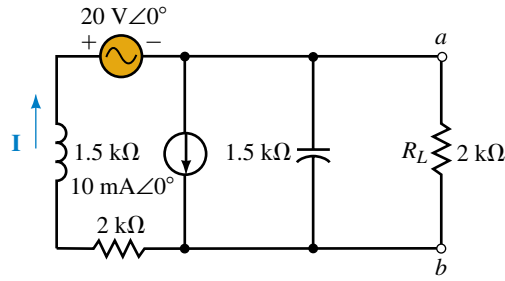

FIGURE 20-69
4. Repeat Problem 3 for the circuit of Figure 20-69.